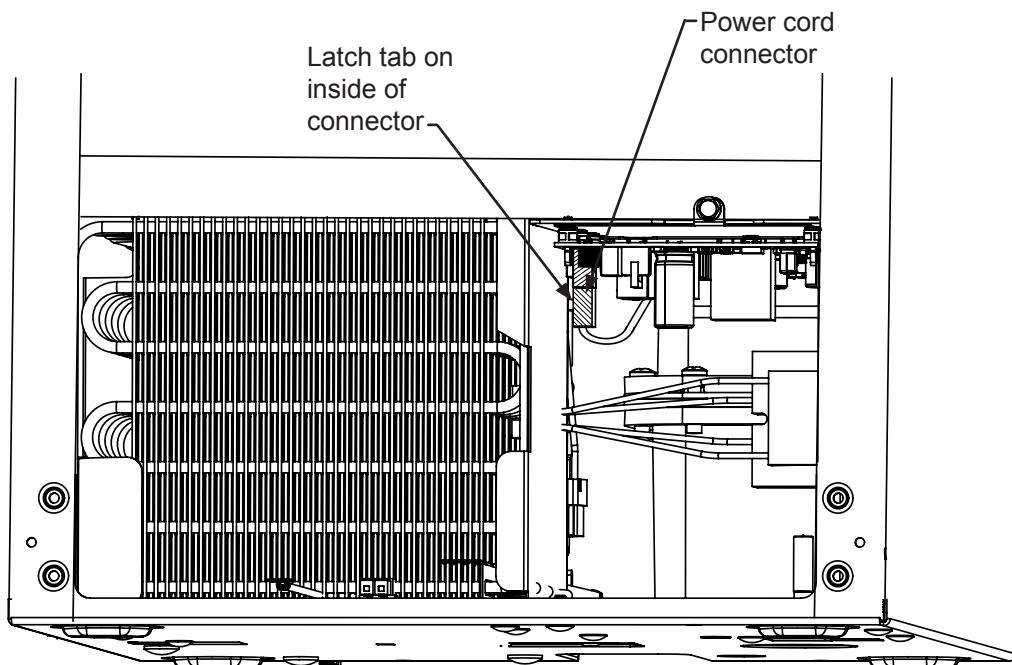

Figure 4
4) Remove the power cord connector from the main electronic board. Depress the latch on the inside of the connector and pull down to disengage the connector. See Figure 4. Place the end of the power cord with the connector toward the back of the ice machine.